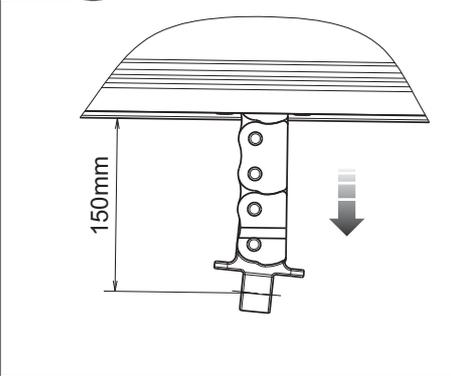

Fig. 18
10) Fig.18 - Fasten the chain terminal to the Bracket **S3** (wing) with the screw and nut provided in the package.